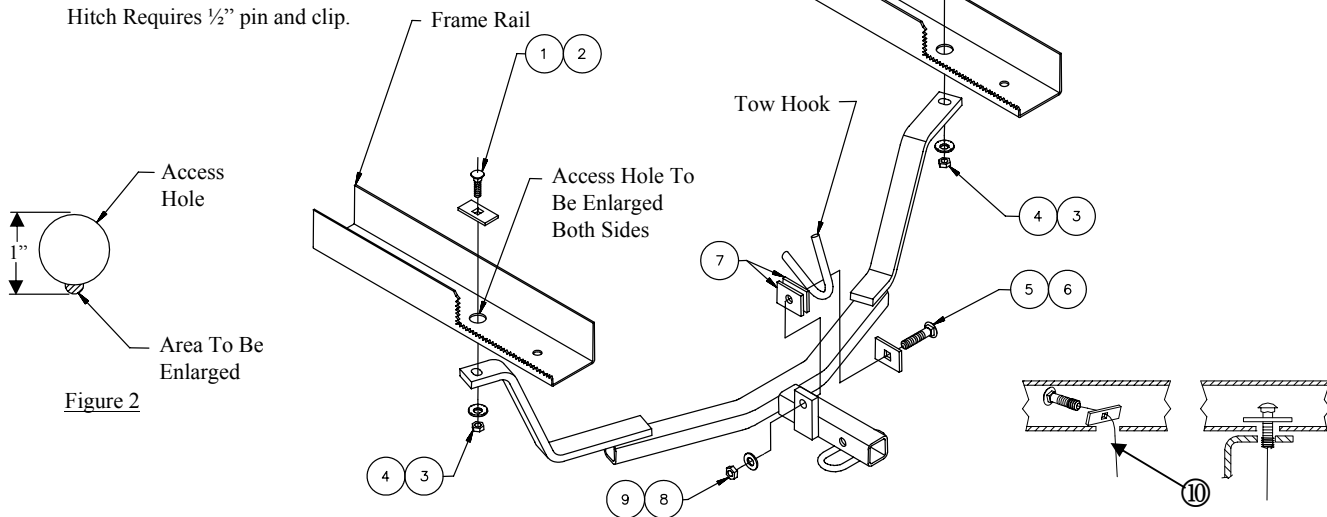

Figure 2
①	Qty. (2)	7/16-14 X 1.50 Carriage Bolt GR5	⑥	Qty. (1)	1/4 X 1.00 X 2.00 Spacer
②	Qty. (2)	1/4 X 1.00 X 3.00 Spacer	⑦	Qty. (2)	1/4 X 1.00 X 2.00 Spacer (Round Hole)
③	Qty. (2)	7/16 Conical Toothed Washer	⑧	Qty. (1)	1/2 Conical Toothed Washer
④	Qty. (2)	7/16 Hex Nut	⑨	Qty. (1)	1/2 Hex Nut
⑤	Qty. (1)	1/2-13 X 2.50 Carriage Bolt GR5	⑩	Qty. (2)	Pull Wire 7/16"
- Enlarge existing hole in both frame rails to allow access for 1.00 X 3.00 spacers to be inserted as shown in Figure 2.